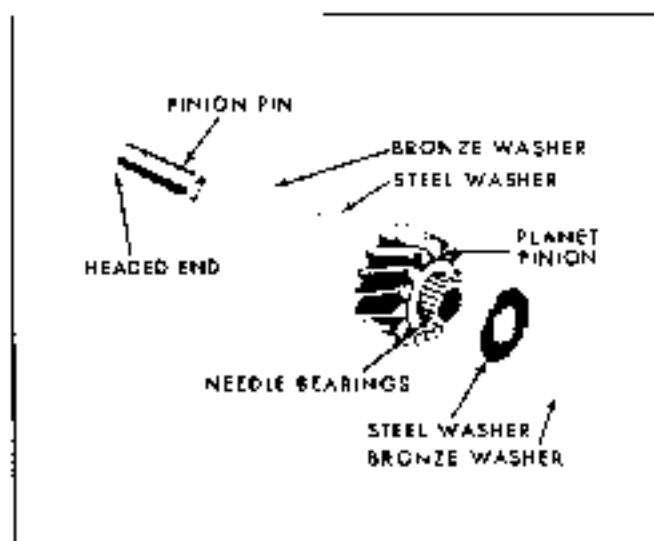

Fig. 7F-118 Exploded View of Planet Pinion
6. Install eighteen (18) needle bearings into each pinion, using petroleum to hold bearings in place. Use pinion pin as guide (Fig. 7F-118).
9. Drive a new pinion pin into place while rotating pinion from front, being sure that headed end is flush or below face of carrier (Fig. 7F-119).